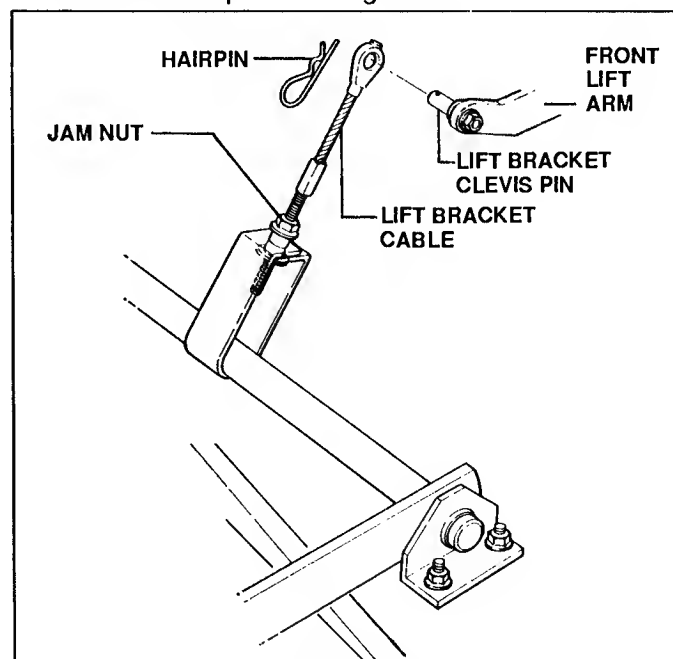

FIGURE 26
- Remove hairpin from FRONT LIFT BRACKET CABLE clevis pin. See Figure 26.
5. Loosen the jam nut on the front lift cable and adjust until the front lip of the deck rests on the 2 x 4 block and the cable is tight. Tighten the cable jam nut and remove the block. See Figure 26 on Page 11.